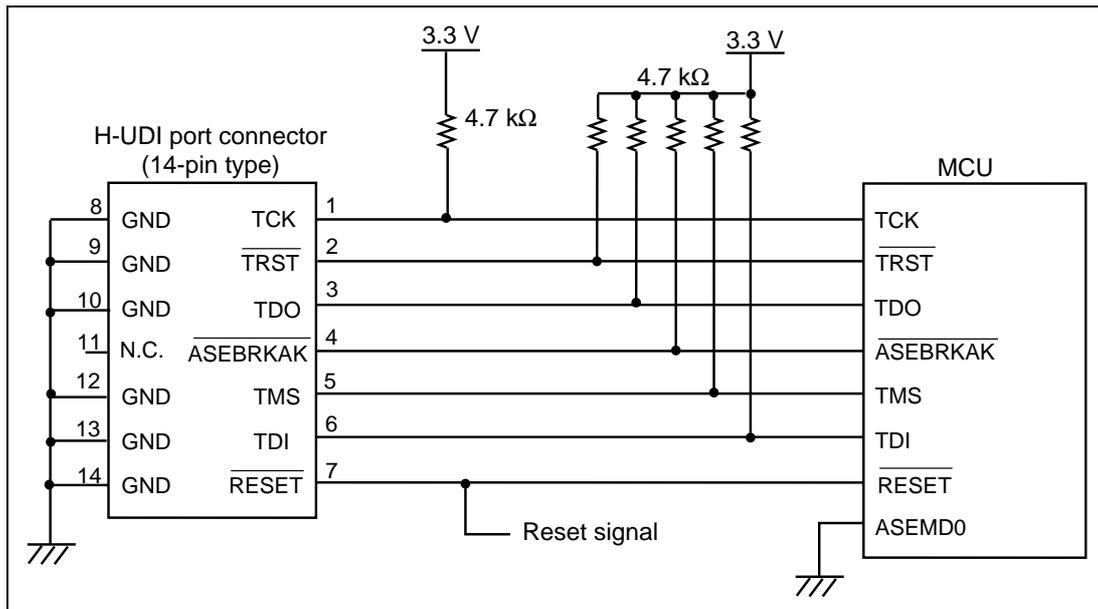

Figure 4.2 Recommended Circuit for Connection between the H-UDI Port Connector and the MCU when Using the Emulator (14-Pin Type)
Figure 4.2 shows a recommended circuit between the H-UDI port connector (14 pins) and the MCU.
- (1) When the emulator is used: /ASEMD0 = low (ASE mode)
- (2) When the emulator is not used: /ASEMD0 = high (normal mode)
6. The resistance values shown in figure 4.2 are recommended.